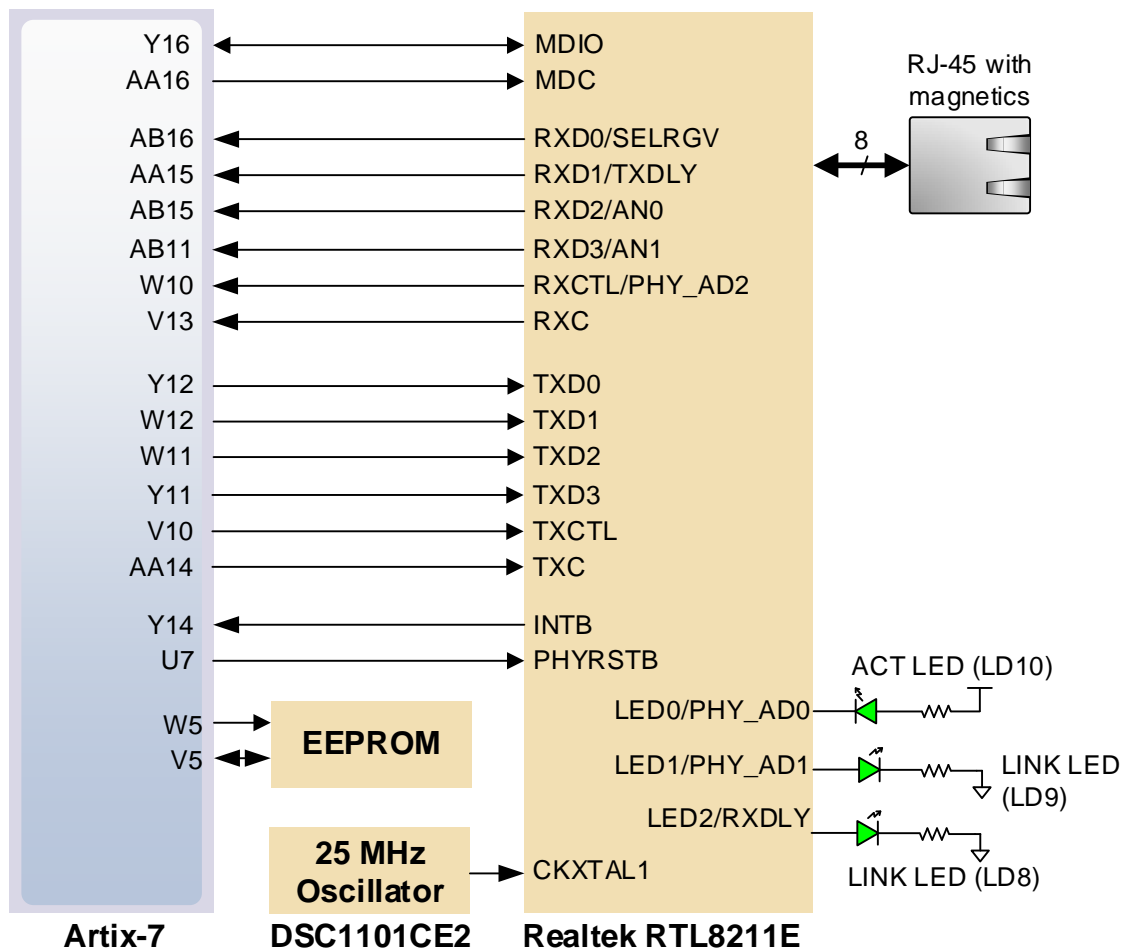

Figure 4. Pin connections between the Artix-7 and the Ethernet PHY.
The Nexys Video board includes a Realtek RTL8211E-VL PHY paired with an RJ-45 Ethernet jack with integrated magnetics to implement a 10/100/1000 Ethernet port for network connection. The PHY interfaces with the FPGA via RGMII for data and MDIO for management. Bank 13 powered at 2.5V is populated with these signals. The auxiliary interrupt (INT_B) and power management (PME_B) signals are also wired to bank 13. The reset signal (RST_B) is the only one wired to a different bank (34), powered at 3.3V. The connection diagram can be seen in Fig. 4.